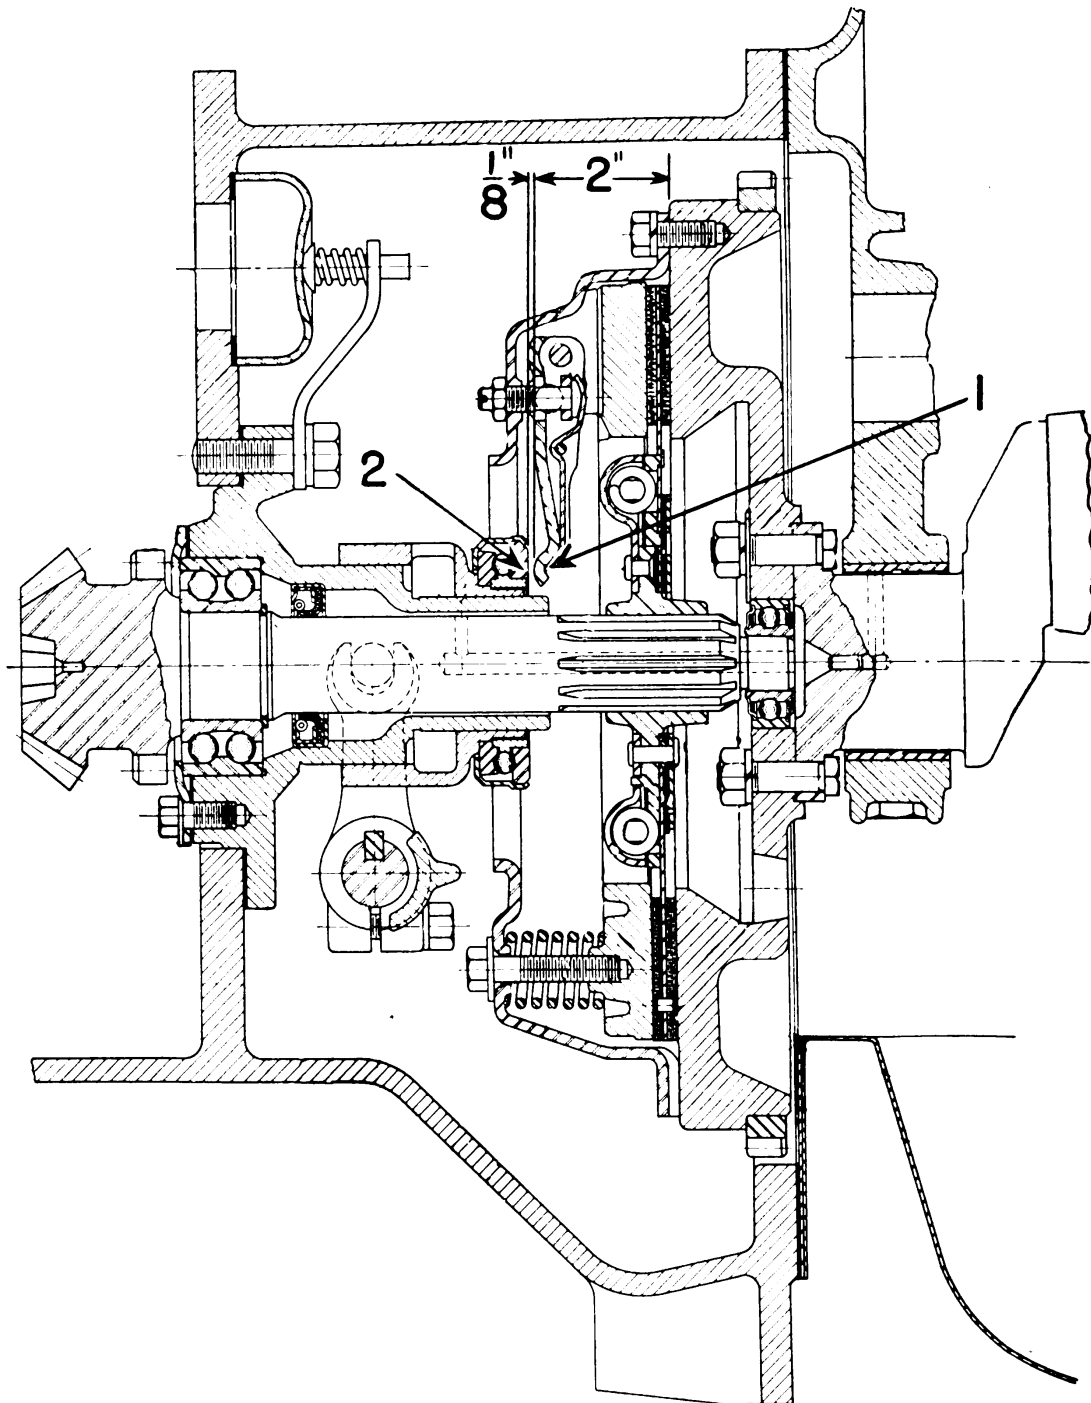

Fig. 69. Details of Clutch
2. Throwout bearing Fig. 69 must not be in contact with clutch finger. This can be observed by removing the left hand clutch hand hole plate.
3. Adjust length of pedal connection so as to provide  $\frac{1}{8}$  inch clearance between fingers and throwout bearing shown as  $\frac{1}{8}$ " in Fig. 69. This is accomplished by disconnecting the clevis at the clutch lever and unscrewing it enough to give the desired length Fig. 11. Be sure lock nut behind clevis is turned down securely. When length is correct, the foot pedal can be depressed about an inch before throwout bearing contacts the fingers. By depressing pedal the point of contact can readily be felt.